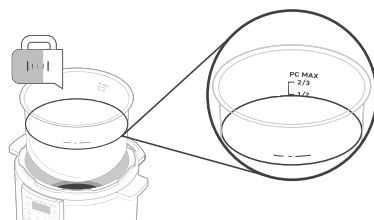

Figure 8.1
2. Fill the inner pot with water to the " $-\frac{1}{2}$ " line. [**Figure 8.1**]